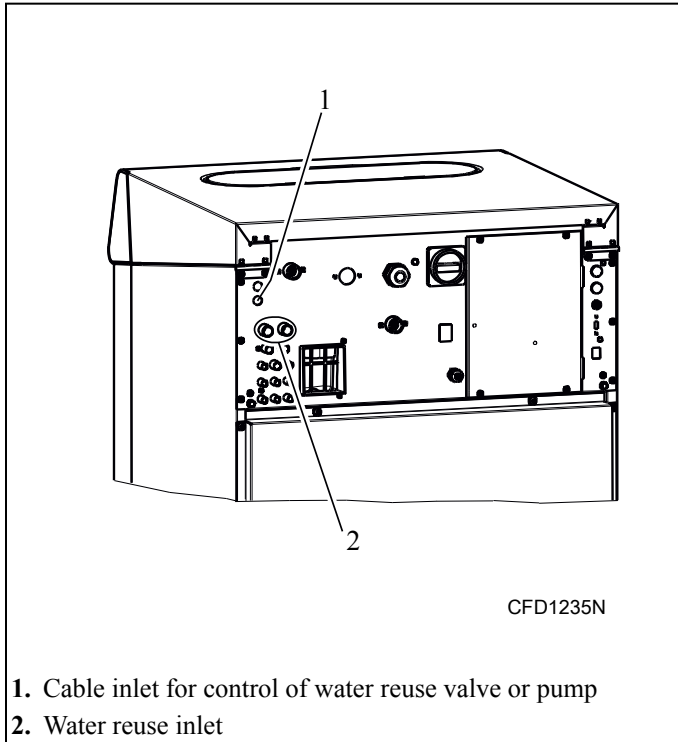
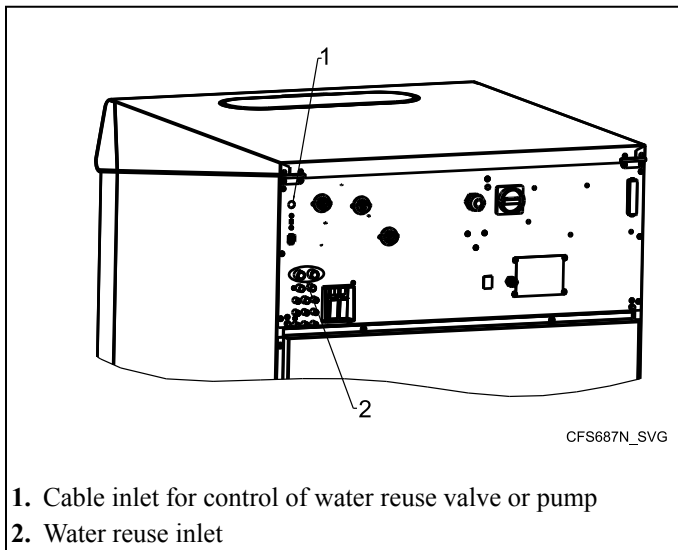

Figure 35
Figure 36 Models with "V" in the 7th position of model number
1. Drill out the protective screens of the water reuse inlet using a drill bit of 15 mm [0.59 in.] diameter. Refer to *Figure 35*
3. Fit a cable bushing into the opening, and pull the cable through the bushing. Refer to *Figure 35* or *Figure 36*.